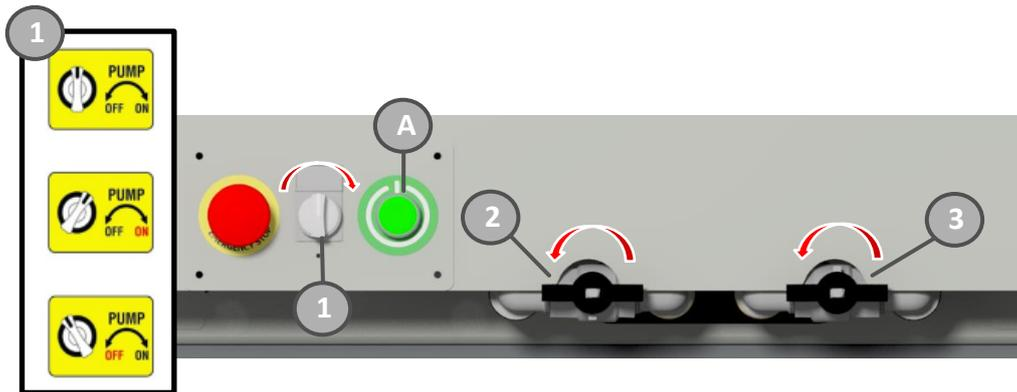
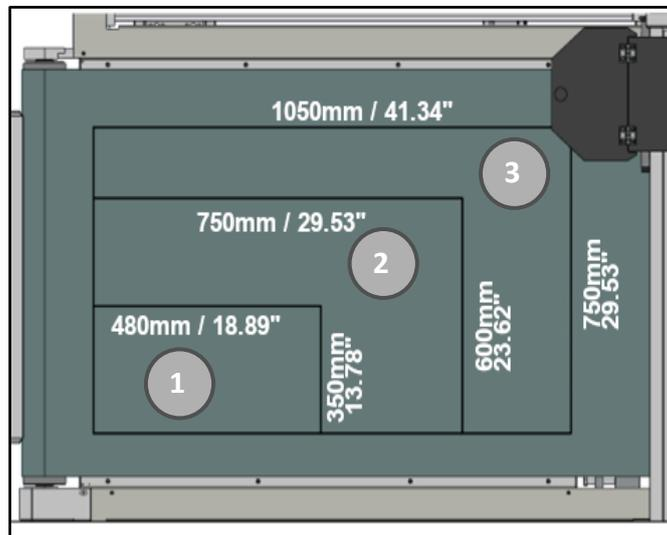

Figure 6-2
Figure 6-3
Press button A Figure 6-2 to switch on power, the machine is then ready to execute commands.
Turning the pump switch (1) Figure 6-2 clockwise will start the vacuum pump. Turning the switch counterclockwise stops the pump motor.
The suction of zone 1 Figure 6-3 is always open and will be activated by the software when necessary for processing.
The two valves (2,3) Figure 6-2, if open, will ensure that when the software activates suction it is extended to the corresponding sectors of the table Figure 6-3.
| Flashing red: | Alarms reset, reactivate the machine by pressing the ON button (Figure 6-2 A) |
- Insert the power by pressing the Machine Power key (A), Figure 6-2.